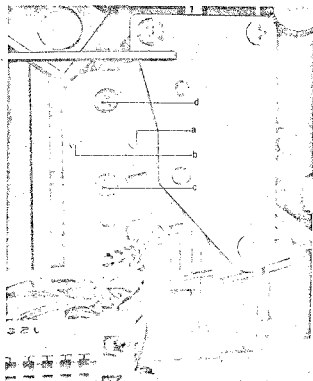

Fig. 5
Connect a High Sensitivity V.T.V.M. (Model 161 A) to the Line Output. Playback Program 3 of an 8,000 Hz pre-recorded tape and adjust Screw (c) shown in Fig. 5 so that the V.T.V.M. indication is maximum.
2) Playback Program 2 of *Test Tape and adjust Screw (d) shown in Fig. 5 so that the V.T.V.M. indication is minimum.
4) The adjustments outlined in items 2) and 3) above will result in ideal head height position and minimize cross talk.